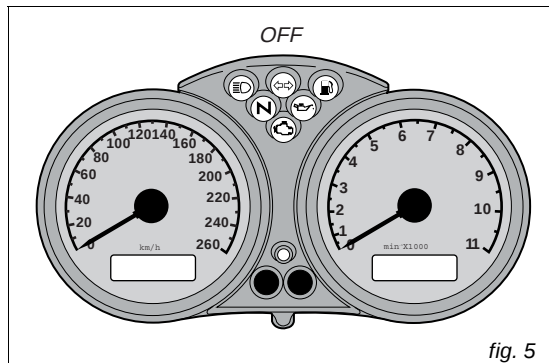
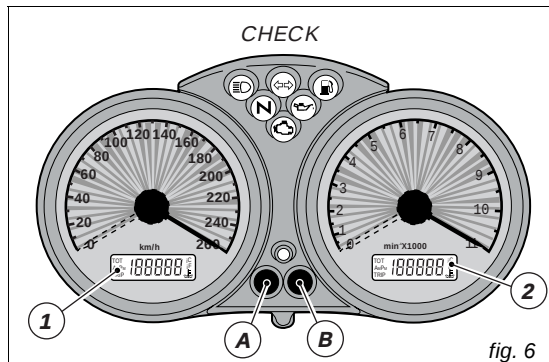

fig. 5
fig. 6
When turning the key from **OFF** to **ON (Key-ON)** the instrument panel carries out a Check of the whole instruments: indexes, displays and pilot lights (fig. 5 and fig. 6).
Turn the key to **ON** and press (A, fig. 6) to display trip meter and odometer alternatively.
Keep (A, fig. 6) pressed for more than 2 seconds. When the **TRIP** function is enabled (trip meter), display (LCD 1) will reset.
Turn the key to **ON** and press (B, fig. 6) to display clock and oil temperature.
Press (B, fig. 6) for at least 2 seconds.
Press (A, fig. 6) to set AM/PM. Press (B) to set hours. Use button (A) to change hour value. Press (B) to set minutes. Press (A) to increase the value. Keep the button pressed for more than 5 seconds to proceed faster. Press (B) to quit this function.
Turn the key to **ON** and press (B, fig. 6) within 5 seconds to change instrument panel lighting power.